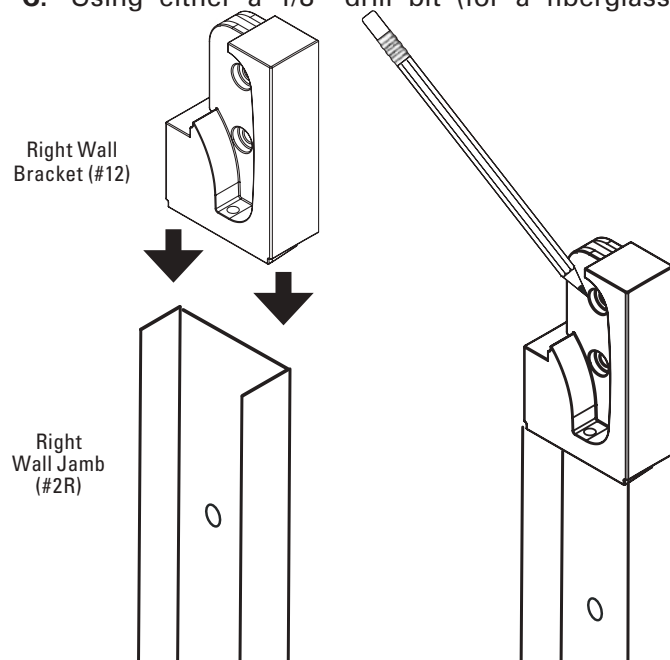

Figure 6
B. Place Right Wall Mount Bracket on top of the right Wall Jamb. Use pencil to mark the location of the two holes (See **Figure 6**). Set the Wall Mount Bracket aside for the moment.